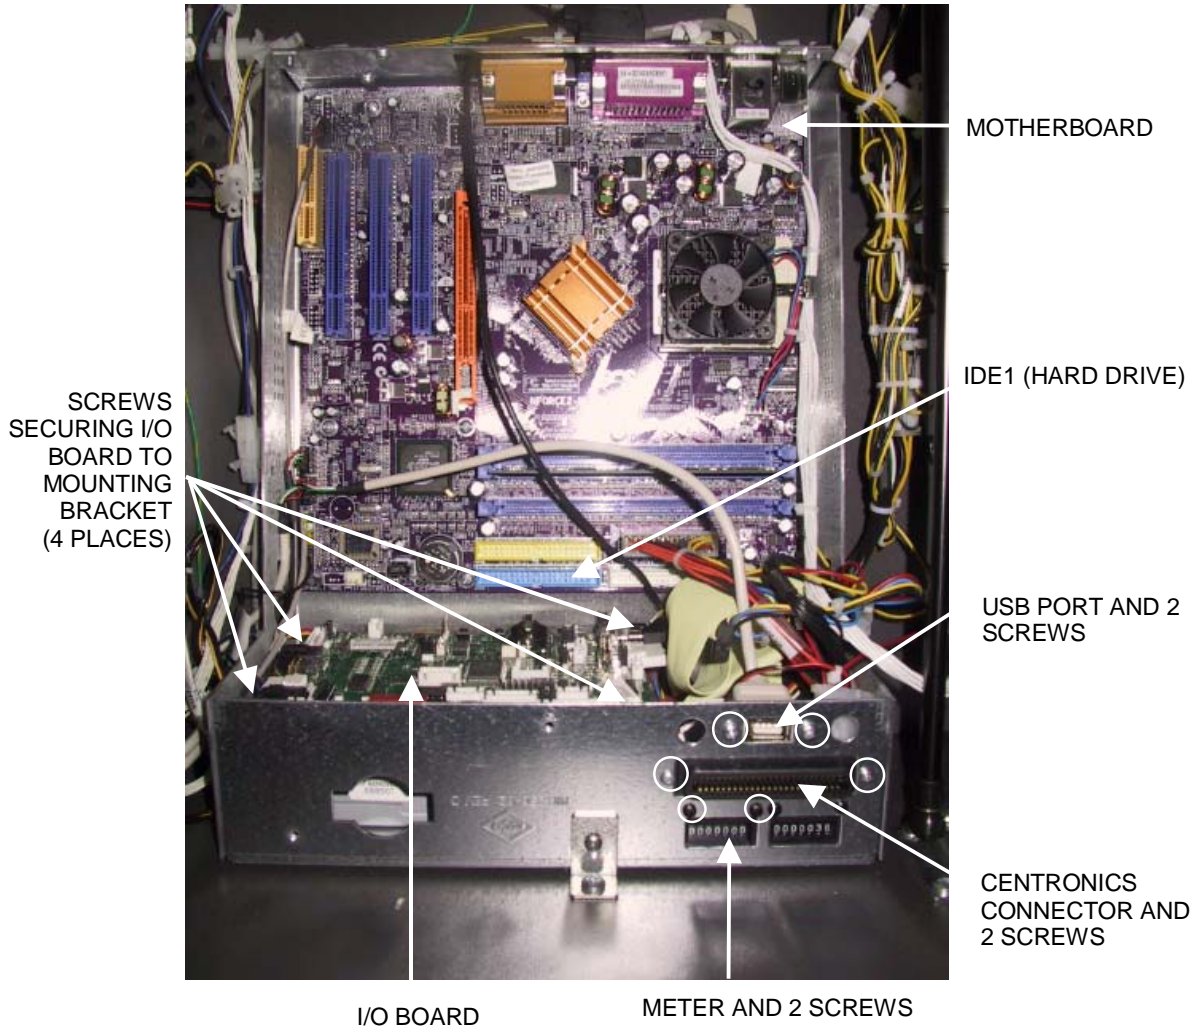

FIGURE 2 - ELECTRONICS BOX WITH COVER REMOVED
8. Disconnect all connections from the I/O board, noting their locations. See Figure 2.
9. Remove the 4 screws securing the I/O board to the power supply mounting bracket. See Figure 2. Remove the I/O board from the electronics box.
10. Disconnect the hard drive ribbon cable from IDE1 on the motherboard. See Figure 2.
11. Remove the 2 screws securing the USB port to the electronics box. See Figure 2. Move the USB connector out of the way of the power supply mounting bracket.
12. Remove the 2 screws securing the Centronics connector to the electronics box. See Figure 2. Remove the Centronics connector from the electronics box.
13. Remove the 2 screws securing the left-hand meter to the electronics box. See Figure 2. Remove the meter from the electronics box.